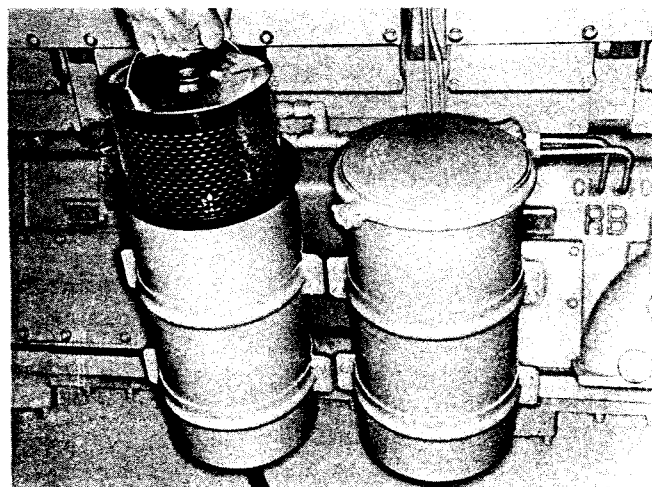

Fig. 2-18, (K21908). Installing by-pass filter element
3. Unscrew support hold-down assembly (3); lift out element (4) and hold-down assembly. Discard element.
7. Check orifice plug (6) inside oil outlet connection or standpipe; blow out with air to open and clean.
8. Check filter cover o-ring (7). Replace if necessary.
9. Install new element in housing. Fig. 2-18.